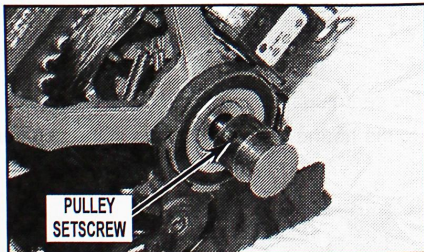

FIGURE 1
3. A drum belt pulley may not be supplied with the new replacement motor. With a hex key, remove the pulley from the failed motor and install it on the replacement motor. Be sure to push the pulley onto the motor shaft, align with idler, and tighten the setscrew securely in place. See *Figure 1*.